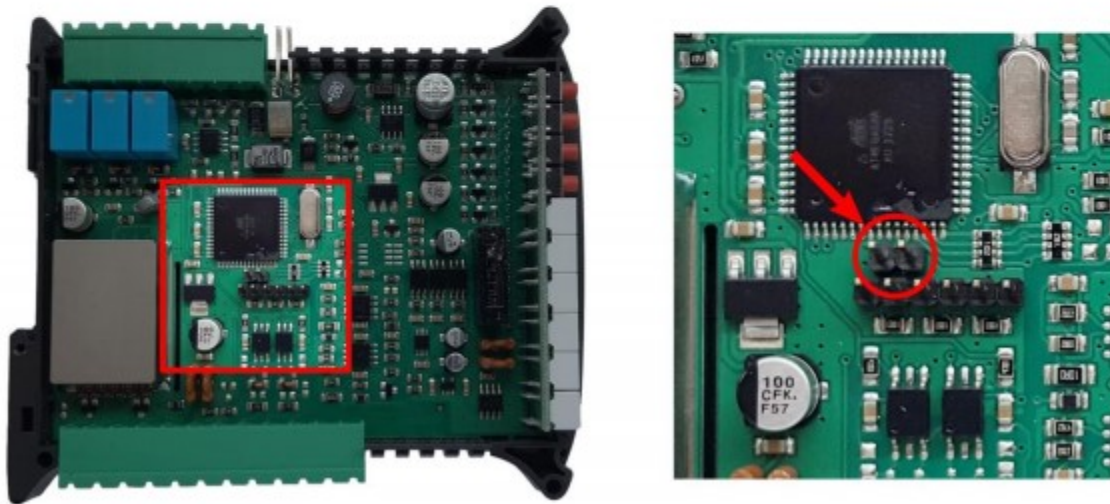

Figure 2-5. Jumper Location
The SCT-20 is sealed with a self-destructive adhesive label (PN 162881) placed over the seam between the two halves of the indicator. The seal prevents the top and bottom half from being separated and prohibits access to the jumper as shown in Figure 2-5 on page 17 from being moved.
7. For Legal for Trade applications, the jumper will need to be removed before sealing the SCT-20. See Figure 2-5 for the jumper location.